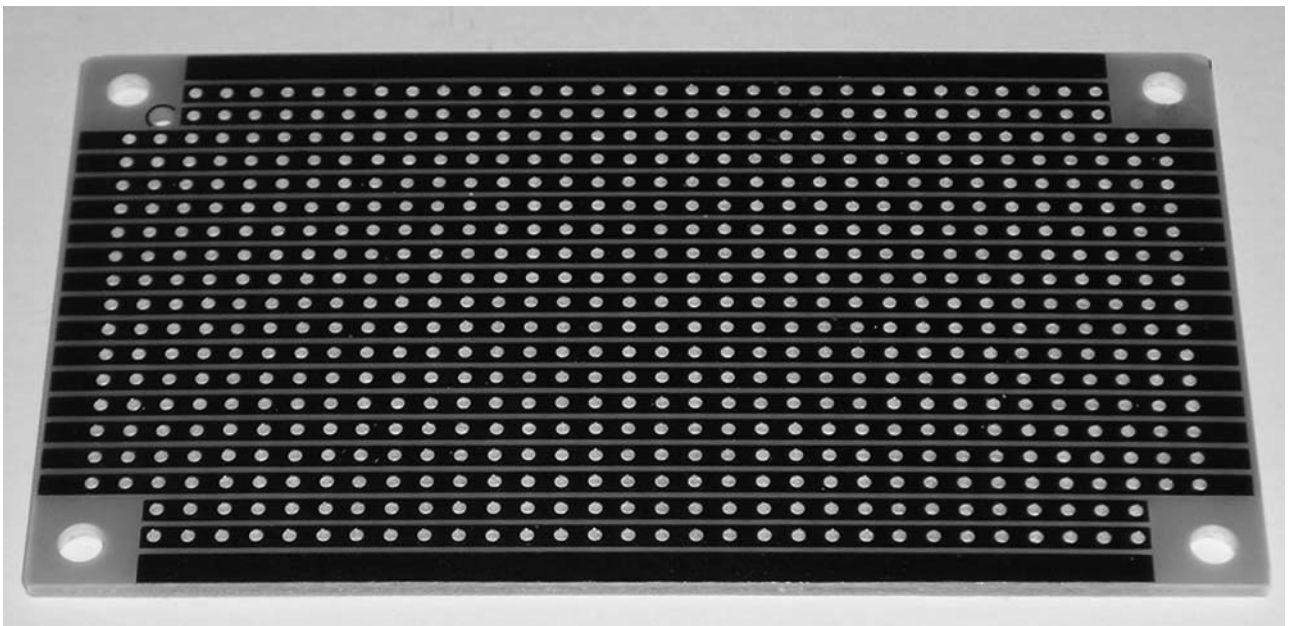

Figure 1-3 Bottom view of a typical stripboard
- **Stripboards** are simple protoboards with holes that are evenly spaced on a 0.1-inch (2.54-mm) grid and connected by rows of copper traces on the bottom of the board (see Figure 1-3). They can be helpful in two different situations: adapting components that are not very breadboard-friendly for use on a breadboard, and constructing small circuits that can be easily moved from breadboard to breadboard as the need arises. As part of our "Hello World!" project, we'll construct a simple stripboard circuit to adapt the standard PICAXE mini-stereo connector for use in our breadboard circuits. In Chapter 2, we'll get into the details of stripboard construction and make a complete programming adapter for use with our projects.